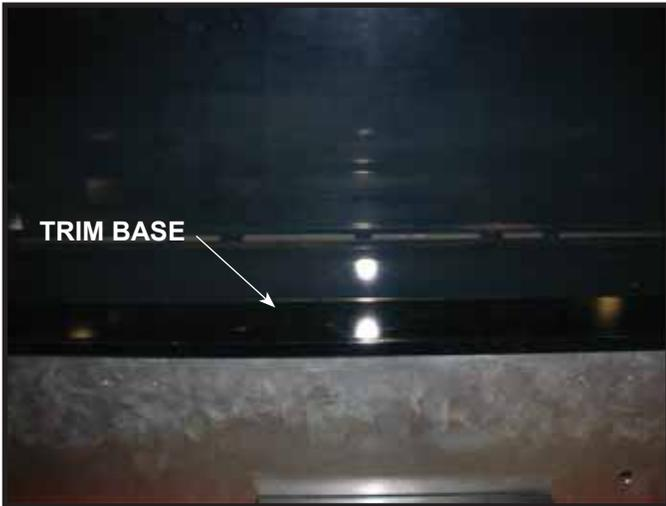

Figure 14. Porcelain Trim Base Installed.
8. Place outside front trim base onto shelf. Place so the cutouts are in line with the outside edges of the glass frame. See Figure 14.